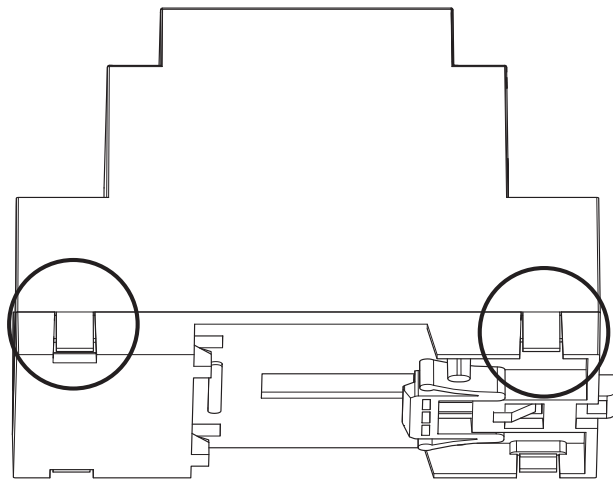

Figure 2 Tabs on enclosure
1. Insert a flathead screwdriver under the tabs on the enclosure, shown in Figure 2, in order to lift the tabs and remove the base.